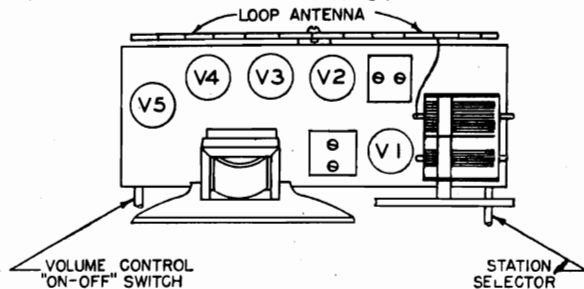

Fig. 1. Tube and Trimmer Locations—2-Control
I. F. ALIGNMENT: — Connect the generator lead through a .1 MFD Condenser to the terminal lug on the "Antenna" section of the gang condenser. The ground lead from the generator should be connected to the gang frame. Set the generator at 455 KC. Adjust the trimmer screws in the 1st and 2nd I. F. cans (See Fig. 1) until a maximum reading is noted on the output meter.